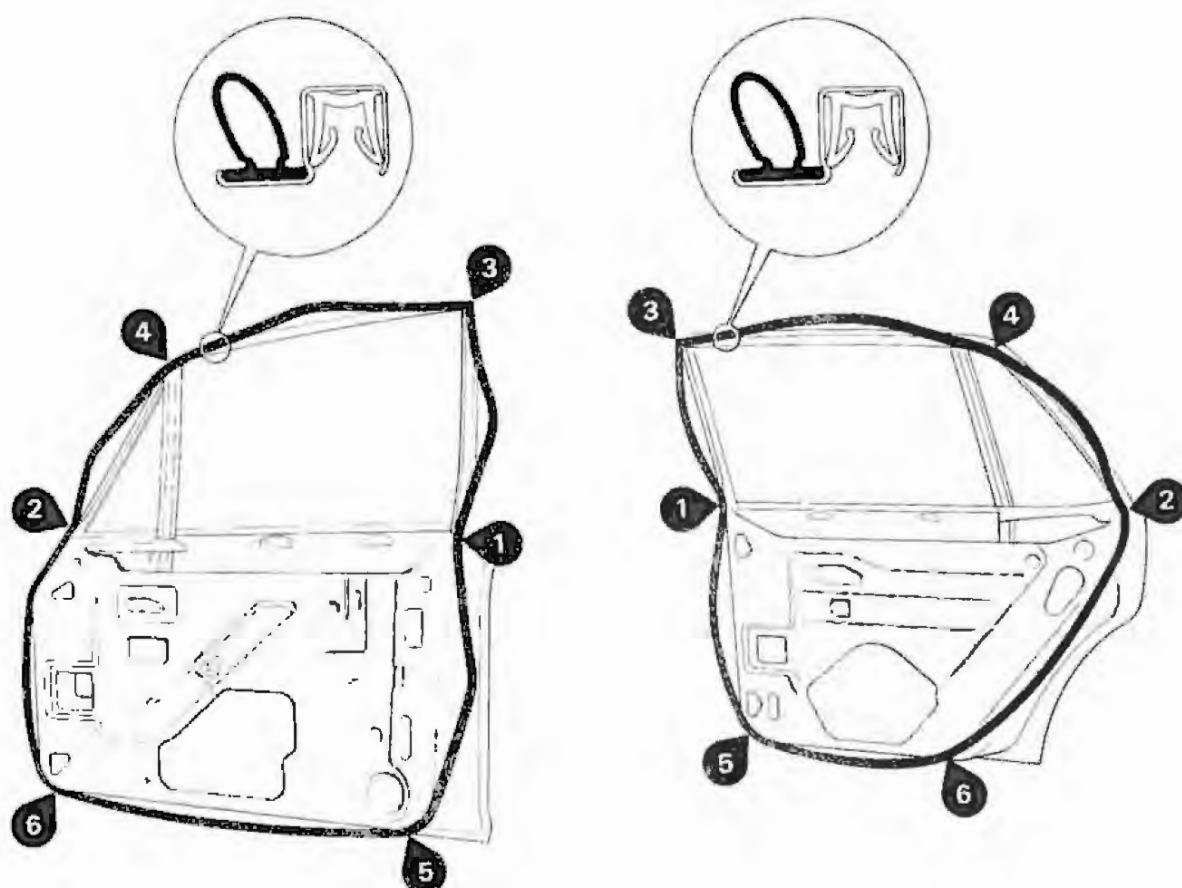

Fig. 2
- 2 Locate the door seal at the points shown in figure 2.